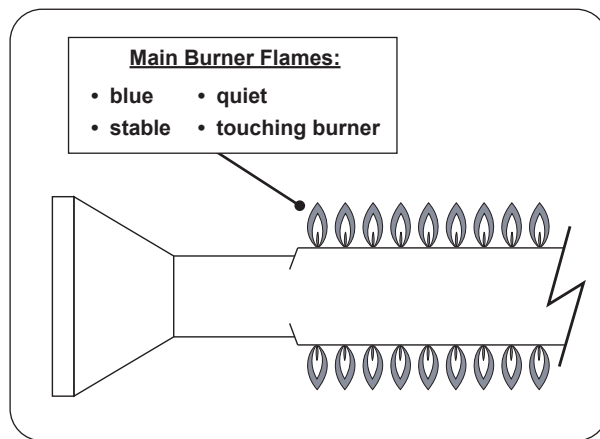

Fig. 42-1 Proper flame appearance
Note: To verify proper settings, the flames of the burners should be visually checked for proper flame appearance and behavior. Light the grill with the burner(s) on HI setting. Allow at least 2 minutes to burn. See below and Fig. 42-1. The flames should:
2. After burning for two minutes, open the air shutters **using the adjustment levers** until the flames lift off, or appear not to be touching the burners (Fig. 42-1).